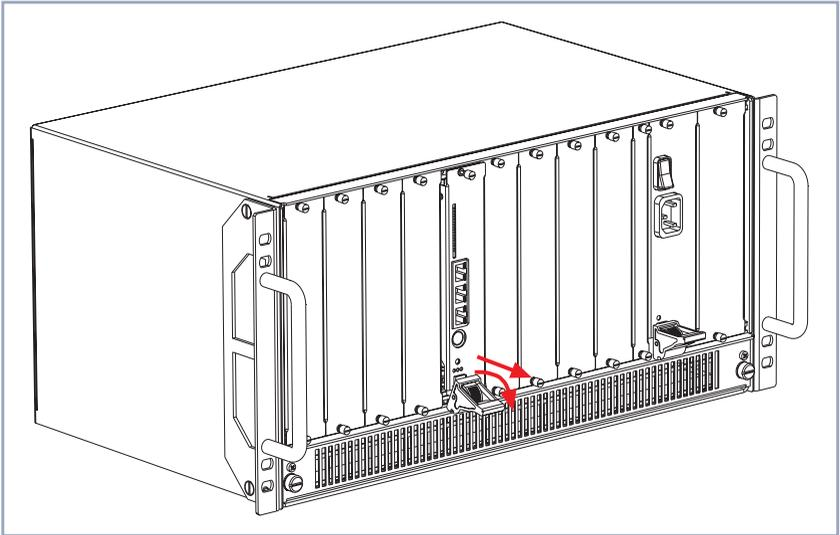

Figure 2-9: Removing an expansion card, step 2
- Push the injector/ejector handle further down until the expansion card comes out of its position (see figure 2-9, page 51).
- Push the injector/ejector handle down until the expansion card comes out of its position (see figure 2-9, page 51).